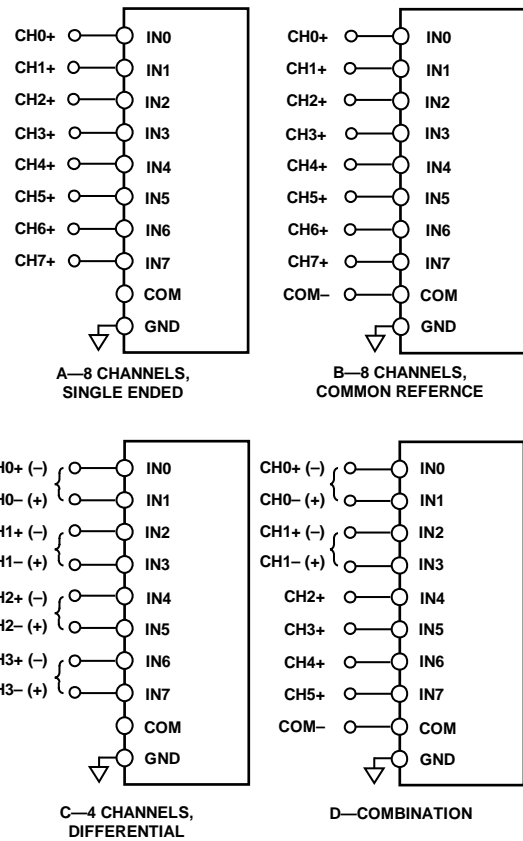

Figure 32. Multiplexed Analog Input Configurations
Figure 32 shows the different methods for configuring the analog inputs with the configuration register, CFG[12:10]. Refer to the Configuration Register, CFG section for more details.
- Figure 32 (A), single-ended referenced to system ground; CFG[12:10] = 111₂. In this configuration, all inputs (IN[7:0]) have a range of GND to V_{REF}.
- Figure 32 (B), bipolar differential with a common reference point; COM = V_{REF}/2; CFG[12:10] = 010₂. Unipolar differential with COM connected to a ground sense; CFG[12:10] = 110₂. In this configuration, all inputs IN[7:0] have a range of GND to V_{REF}.
- Figure 32 (C), bipolar differential pairs with the negative input channel referenced to V_{REF}/2; CFG[12:10] = 00X₂. Unipolar differential pairs with the negative input channel referenced to a ground sense; CFG[12:10] = 10X₂. In these configurations, the positive input channels have the range of GND to V_{REF}. The negative input channels are a sense referred to V_{REF}/2 for bipolar pairs, or GND for unipolar pairs. The positive channel is configured with CFG[9:7]. If CFG[9:7] is even, then IN0, IN2, IN4, and IN6 are used. If CFG[9:7] is odd, then IN1, IN3, IN5, and IN7 are used, as indicated by the channels with parentheses in Figure 32 (C). For example, for IN0/IN1 pairs with the positive channel on IN0, CFG[9:7] = 000₂. For IN4/IN5 pairs with the positive channel on IN5, CFG[9:7] = 101₂. Note that for the sequencer, detailed in the Channel Sequencer section, the positive channels are always IN0, IN2, IN4, and IN6.
- Figure 32 (D), inputs configured in any of the preceding combinations (showing that the AD7682/AD7689 can be configured dynamically).